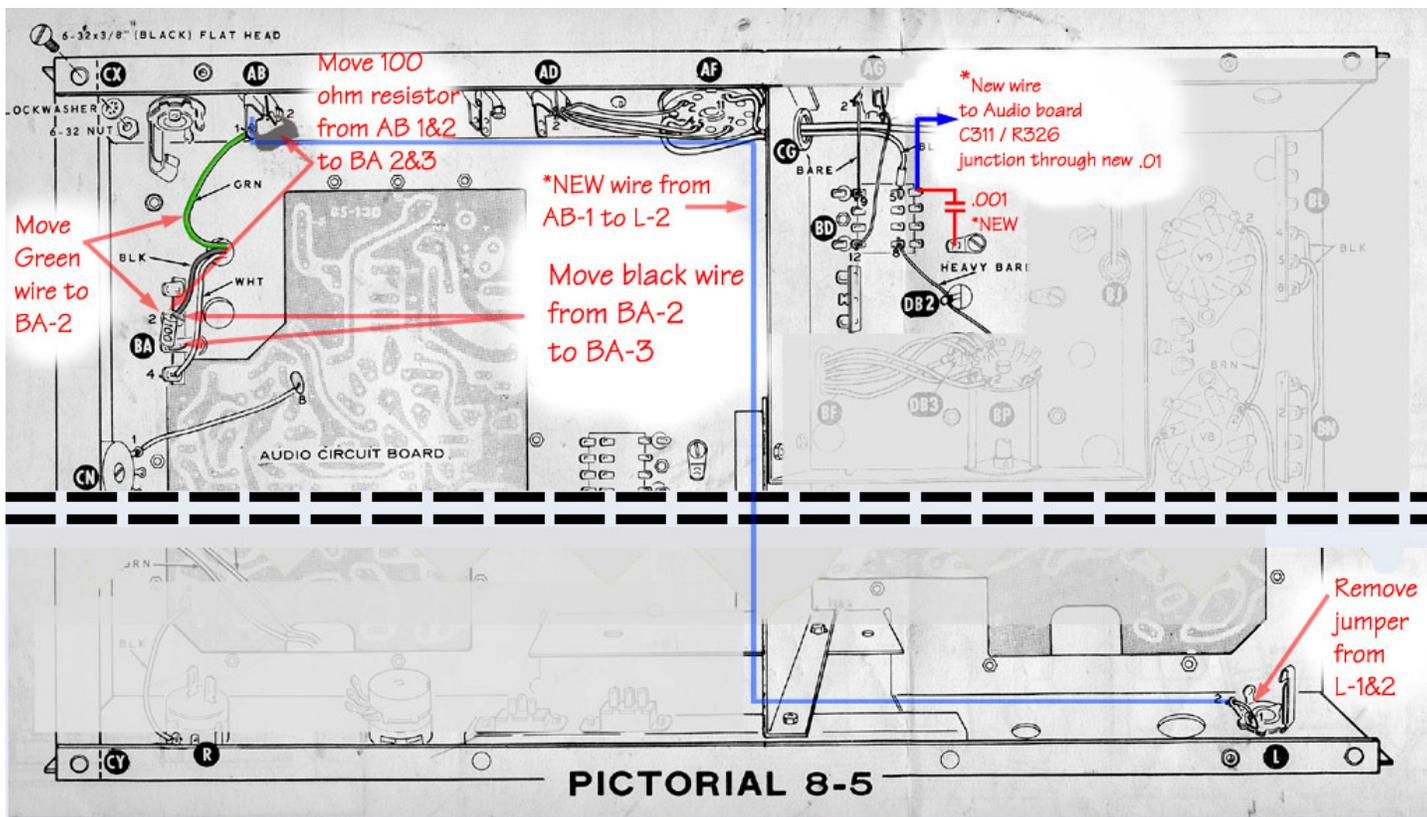

Figure 1
These rigs are designed to be used with Hi-Z headphones, but if low-Z phones are used the outboard speaker will not mute completely with the phones connected. To convert to low-Z phones, make the following wiring changes referring to *(Figure 1)* of this document, and pictorial 8-4 (foldout from page 53), and pictorial 8-5 (foldout from page 67) of the HW-101 manual:
- 1) Connect a .001 μfd disk capacitor (DO NOT use a higher value) from relay RL1 pin 1, to ground (**Figure 1**).